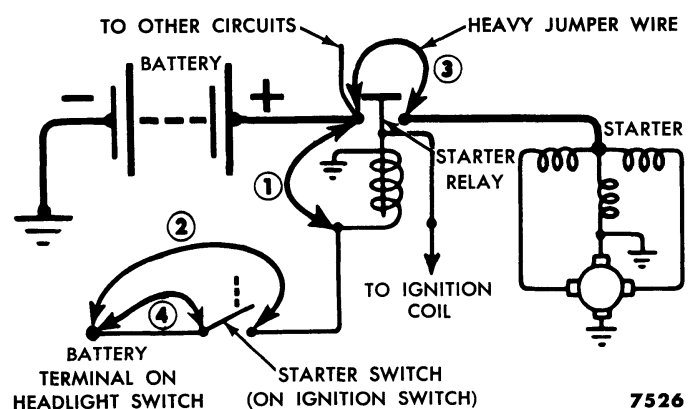

Fig. 5—Starting Circuit Test
(1) **RELAY DOES NOT CLICK.** Connect a jumper from the battery terminal of the relay to the ignition switch terminal of the relay, fig. 5, connection marked ①. If the engine does not crank, the starter relay is probably at fault. If the engine cranks, connect a jumper from the battery terminal on the lighting switch to the (ST) starter relay terminal of the ignition switch, fig. 5, con-
nection marked ②. If the engine does not crank, the wire connecting the starter relay to the ignition switch, or the wiring connecting the battery to the lighting switch is defective. If the engine cranks, connect the jumper between the lighting switch battery terminal and the "AM" terminal of the ignition switch, fig. 5, connection marked ④. If the engine does not crank when the ignition switch is operated, the ignition switch is at fault. Replace the switch. If the engine cranks when the ignition switch is operated, the wire connecting the ignition switch to the battery terminal on the lighting switch is at fault. Replace the wire.
(2) **RELAY CLICKS.** If the relay clicks when the ignition switch is operated, connect a heavy jumper from the relay battery terminal to the relay starter motor terminal, fig. 5, connection marked ③. If the engine cranks, replace the relay. If the engine does not crank, observe the spark when connecting and disconnecting the jumper. If there is a heavy spark, see (b) below. If the spark is weak or if there is no spark at all, proceed as follows: